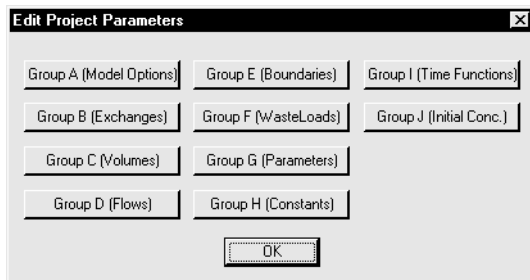

Figure 40: Edit Project Parameters Window
If you want to edit the file you have created or an existing data file, WASP Builder allows you to edit parameters individually or globally. You can edit groups individually by double clicking on the icon for that group in the display window. You can edit Data Groups A through J for all parameters using the **Edit Project Parameters** window (*Figure 40*). The following section will briefly describe each of the data groups and provide instruction for using each of the data group windows.
2. Select the parameter group that you want to edit (*Figure 40*).